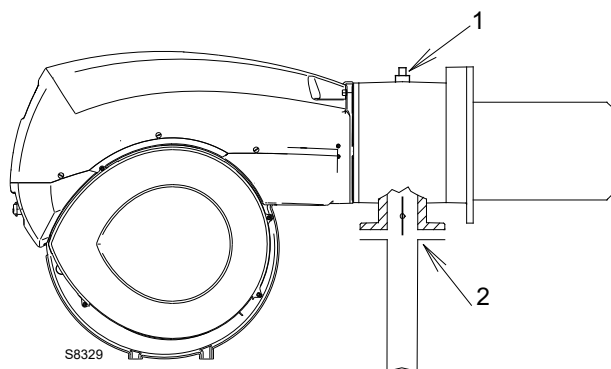

Fig. 29
Gas pressure measured at the test point 1)(Fig. 29), with:
Pressure loss at gas butterfly valve 2)(Fig. 29) with maximum opening: 90°.
- subtract the combustion chamber pressure from the gas pressure measured at test point 1)(Fig. 29);
- Gas pressure at test point 1)(Fig. 29) = 11.7 “WC